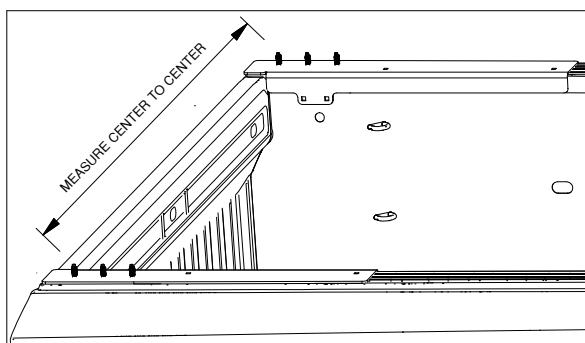

Figure A1: View looking at front of bed.
- Verify proper fit of cab protector.** Place the bed protectors on the pickup sides as shown in Figure A1. Make sure the bed protector flange is pushed tightly against the front of the bed and the inside of the bed sides. Measure across the truck from the center of the middle threaded stud on the driver side to the center of the middle stud on the passenger side. Next, measure the distance between the two middle mounting slots on each side of the cab protector. The two measurements should be within 1/2" of each other.